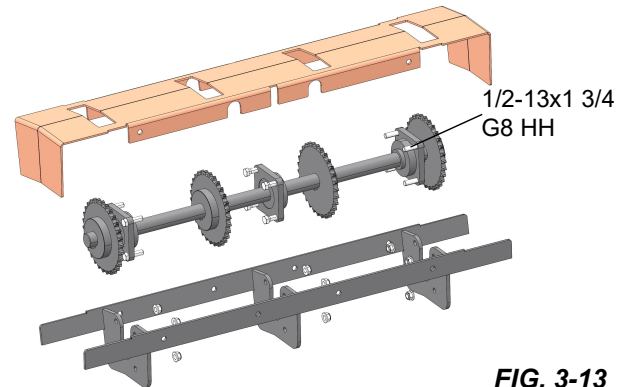

FIG. 3-13
3. Slide the link segment cover over the sprockets as shown in FIG. 3-13.